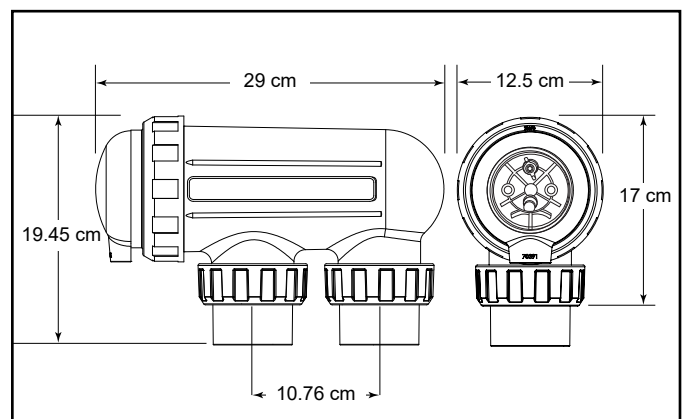

Figure 2. Electrolytic Cell Dimensions
2. Plumb the cell inlet and outlet on vertical lengths of 50 mm PVC pipe (if using 40 mm pipe, use 40 mm reducers). The cell inlet and outlet ports are 11.5 cm apart, see Figure 2. The inlet of the cell is on the side closest to the electrical lead.